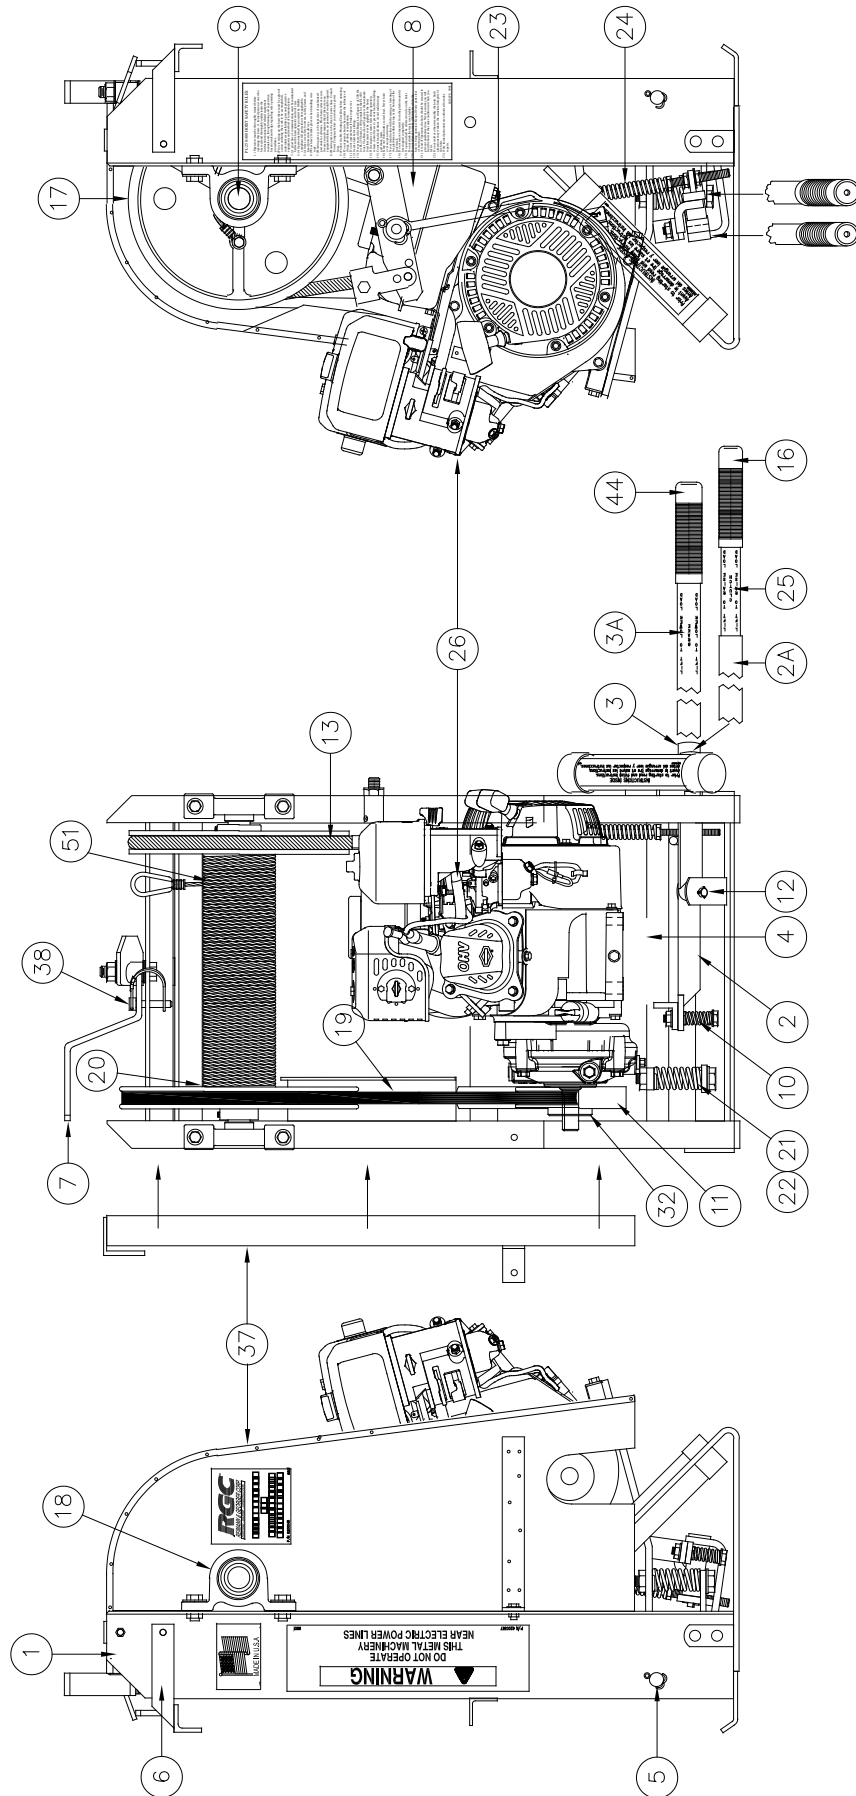

Figure 8-1.
4. When properly adjusted, the brake will release before the #10 clutch spring is entirely compressed. Gap "A" is widened or narrowed by screwing or unscrewing, respectively, nuts "B" and "C". Make this adjustment carefully. If there is no gap "A", the brake will release before the clutch belt is tightened. This will cause a sudden jerking before the clutch belt is tightened, resulting in an overload on the hoist, wire rope, and track. The clutch can be engaged sooner to help avoid this overloading by tightening the top nut on the #10 clutch spring shown in Figure 8-1. The clutch spring is preset at the factory to a compressed height of $1 \frac{3}{4}$ inches.
The main bearings (shown as #18 in Figure 8-1) are lubricated for life and need no attention. Oil all pivots and linkage joints occasionally.
Refer to Figure 8-1.